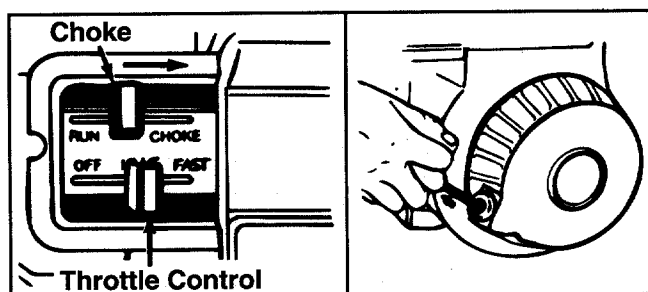

FIGURE 5.
The throttle control lever is located on the engine. It controls the engine speed and stops the engine. See figure 5.
3. Place the throttle control lever in FAST position. See figure 5.
5. Grasp starter handle (see figure 5) and pull rope out slowly until engine reaches start of compression cycle (rope will pull slightly harder at this point). Let the rope rewind slowly.